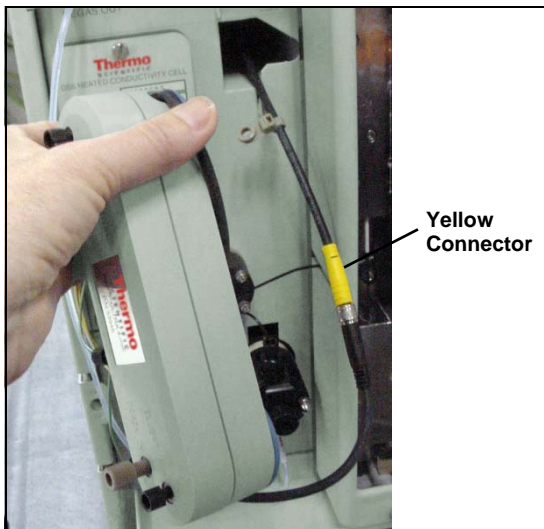

Figure 5-21. Removing the Suppressor
6. Continue pulling the suppressor out until the yellow connector on the cable inside the Dionex ICS-2100 is outside the panel (see Figure 5-21).